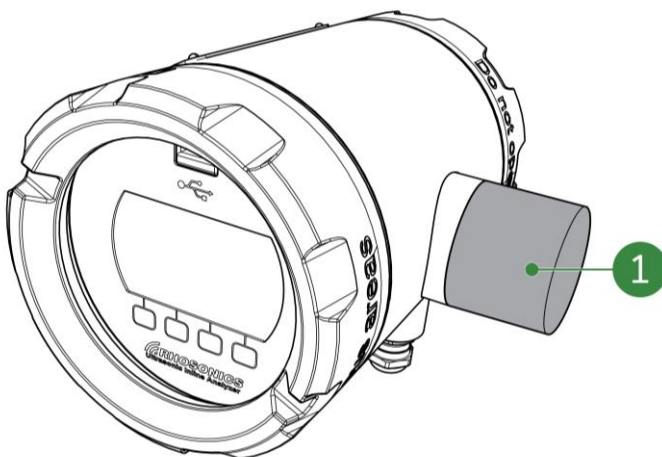

Figure 8-8: Yellow protection cap on transmitter
- place the yellow protection cap on the transmitter, see Figure 8-8, pos. 1;